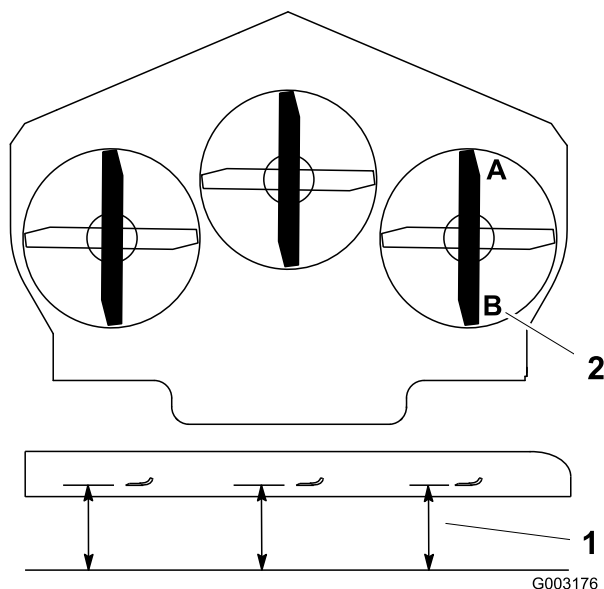

Figure 73
1. Position the right blade front-to-rear (Figure 73).
2. Measure the right blade at the **A** location, from a level surface to the cutting edge of the blade tip (Figure 73).
4. Measure the right blade at the **B** location, from a level surface to the cutting edge of the blade tip (Figure 73).
6. The mower blade should be a 1/4 to 3/8 inch (6 to 10 mm) lower at position **A** than at position **B** (Figure 73). If it is not correct, proceed to the following steps.